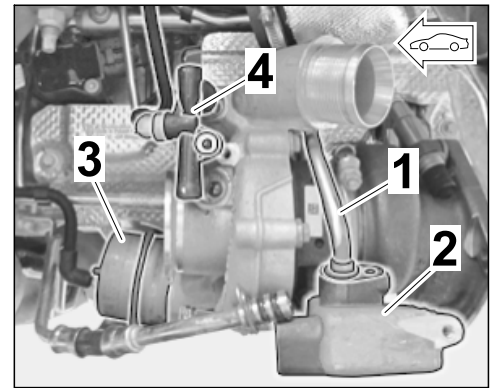

Figure 21
3.1.1 Remove Torx screw (M6 x 12) on oil supply line/turbocharger oil tank flange (cyl. 1–3 ⇒ *Figure 21 -1-*/cyl. 4–6).
- Remove Torx screw (M6 x 12) on tank ventilation line flange and carefully loosen the flange (⇒ Figure 21 -4-).